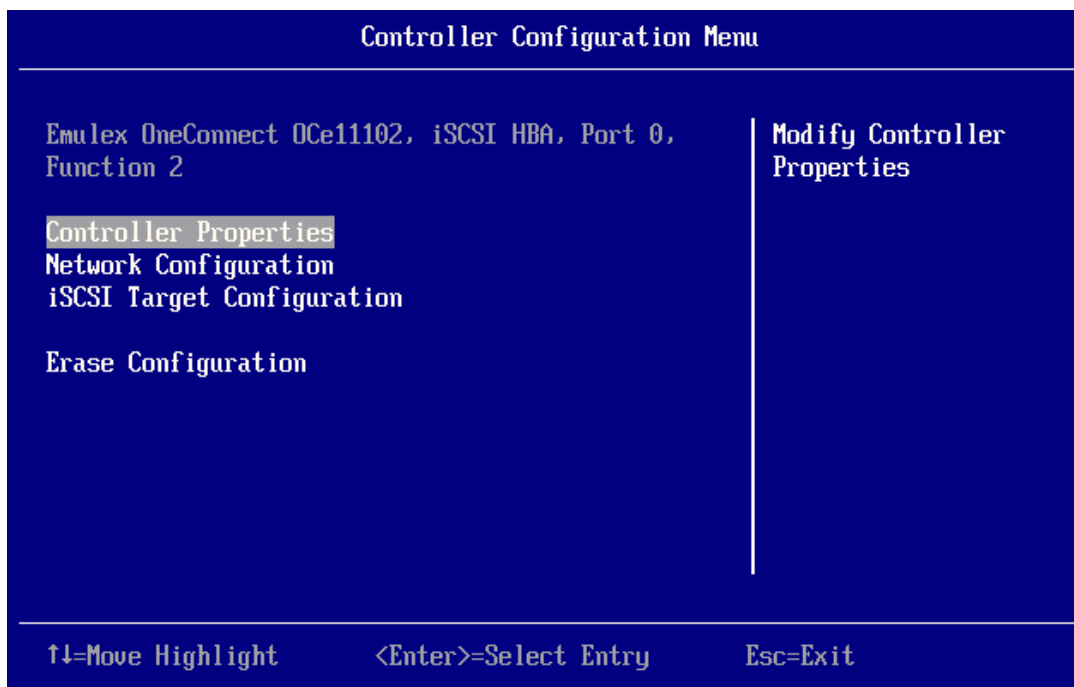
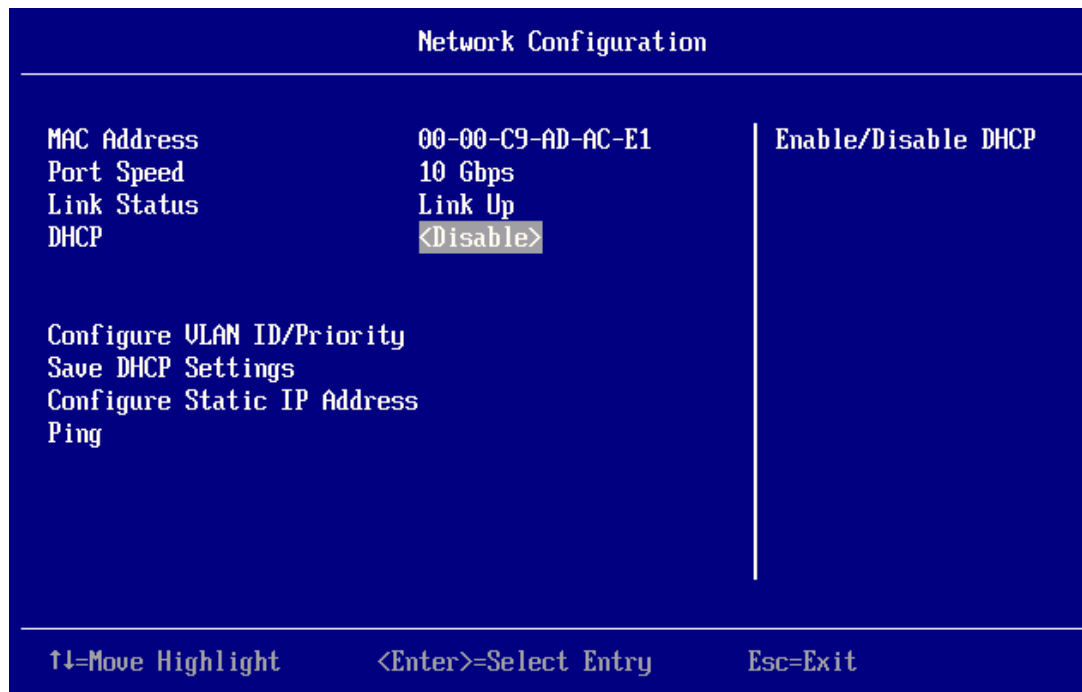

Figure 11-4 Controller Configuration Menu Screen
Figure 11-6 Network Configuration Screen
1. On the Controller Configuration menu (Figure 11-4), select **Network Configuration** and press **<Enter>**. The Network Configuration screen is displayed.
1. On the Controller Configuration menu (Figure 11-4), select **Network Configuration** and press **<Enter>**. The Network Configuration screen is displayed (see Figure 11-6).
4. On the Controller Configuration menu (Figure 11-4), select **iSCSI Target Configuration** and press **<Enter>**. The iSCSI Target Configuration screen shows the discovered targets.